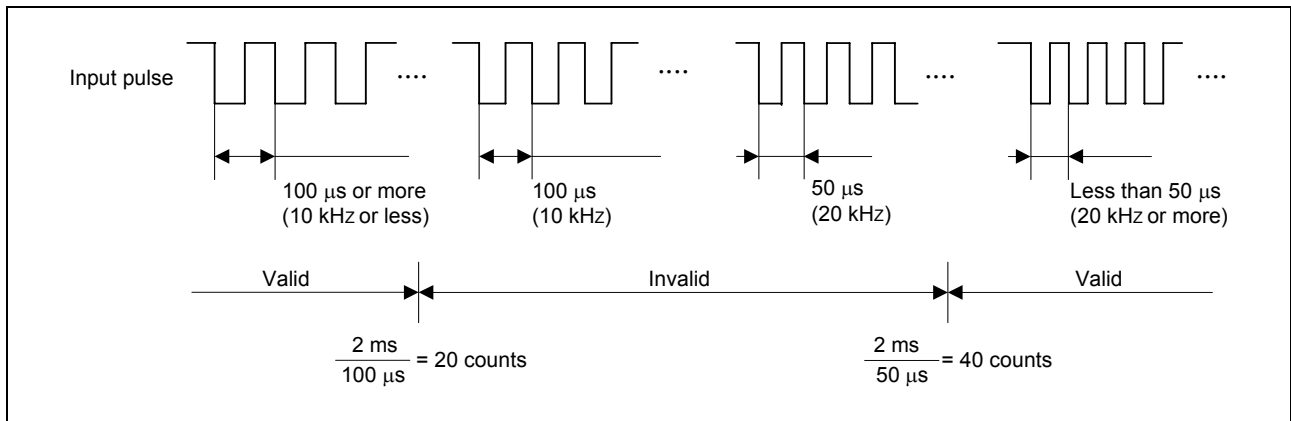
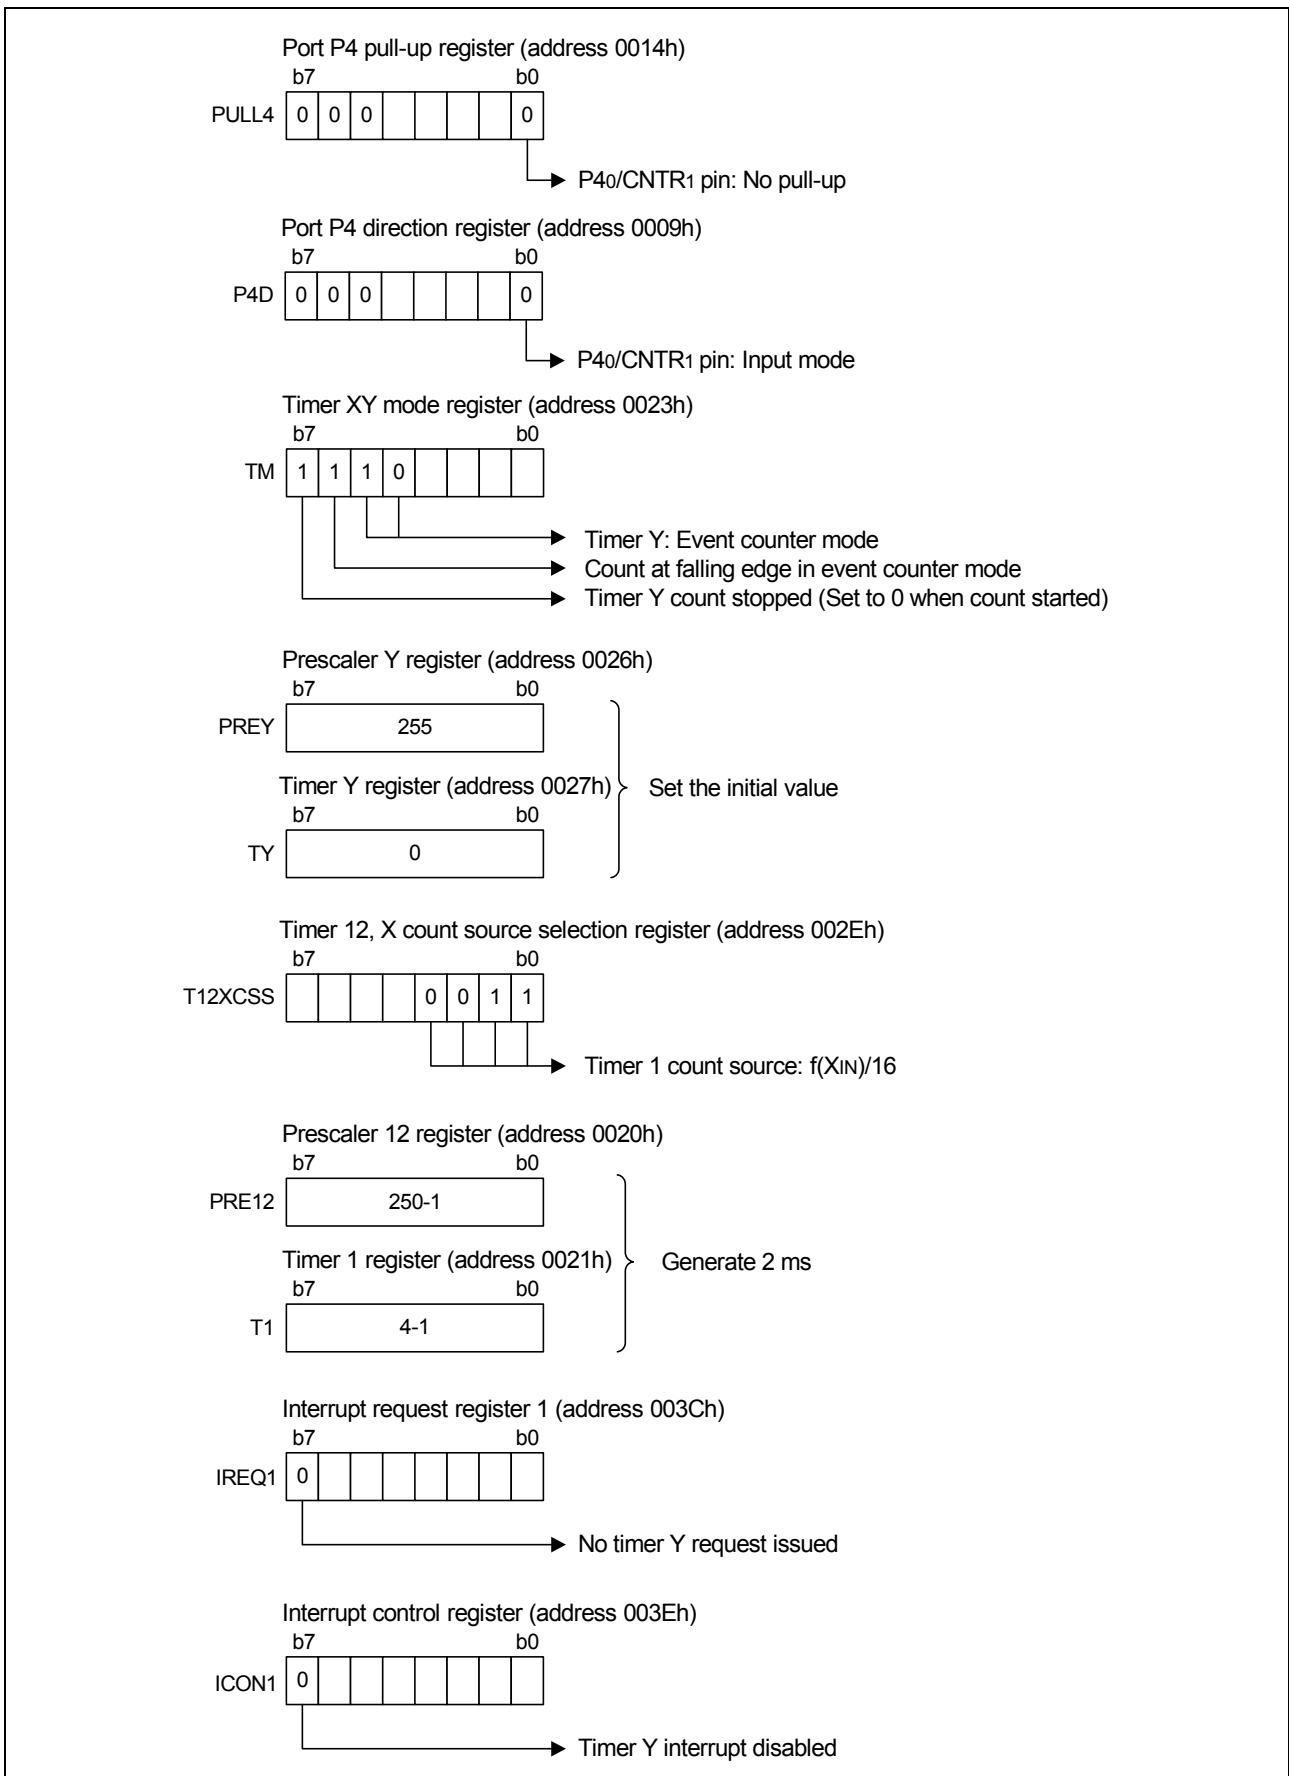
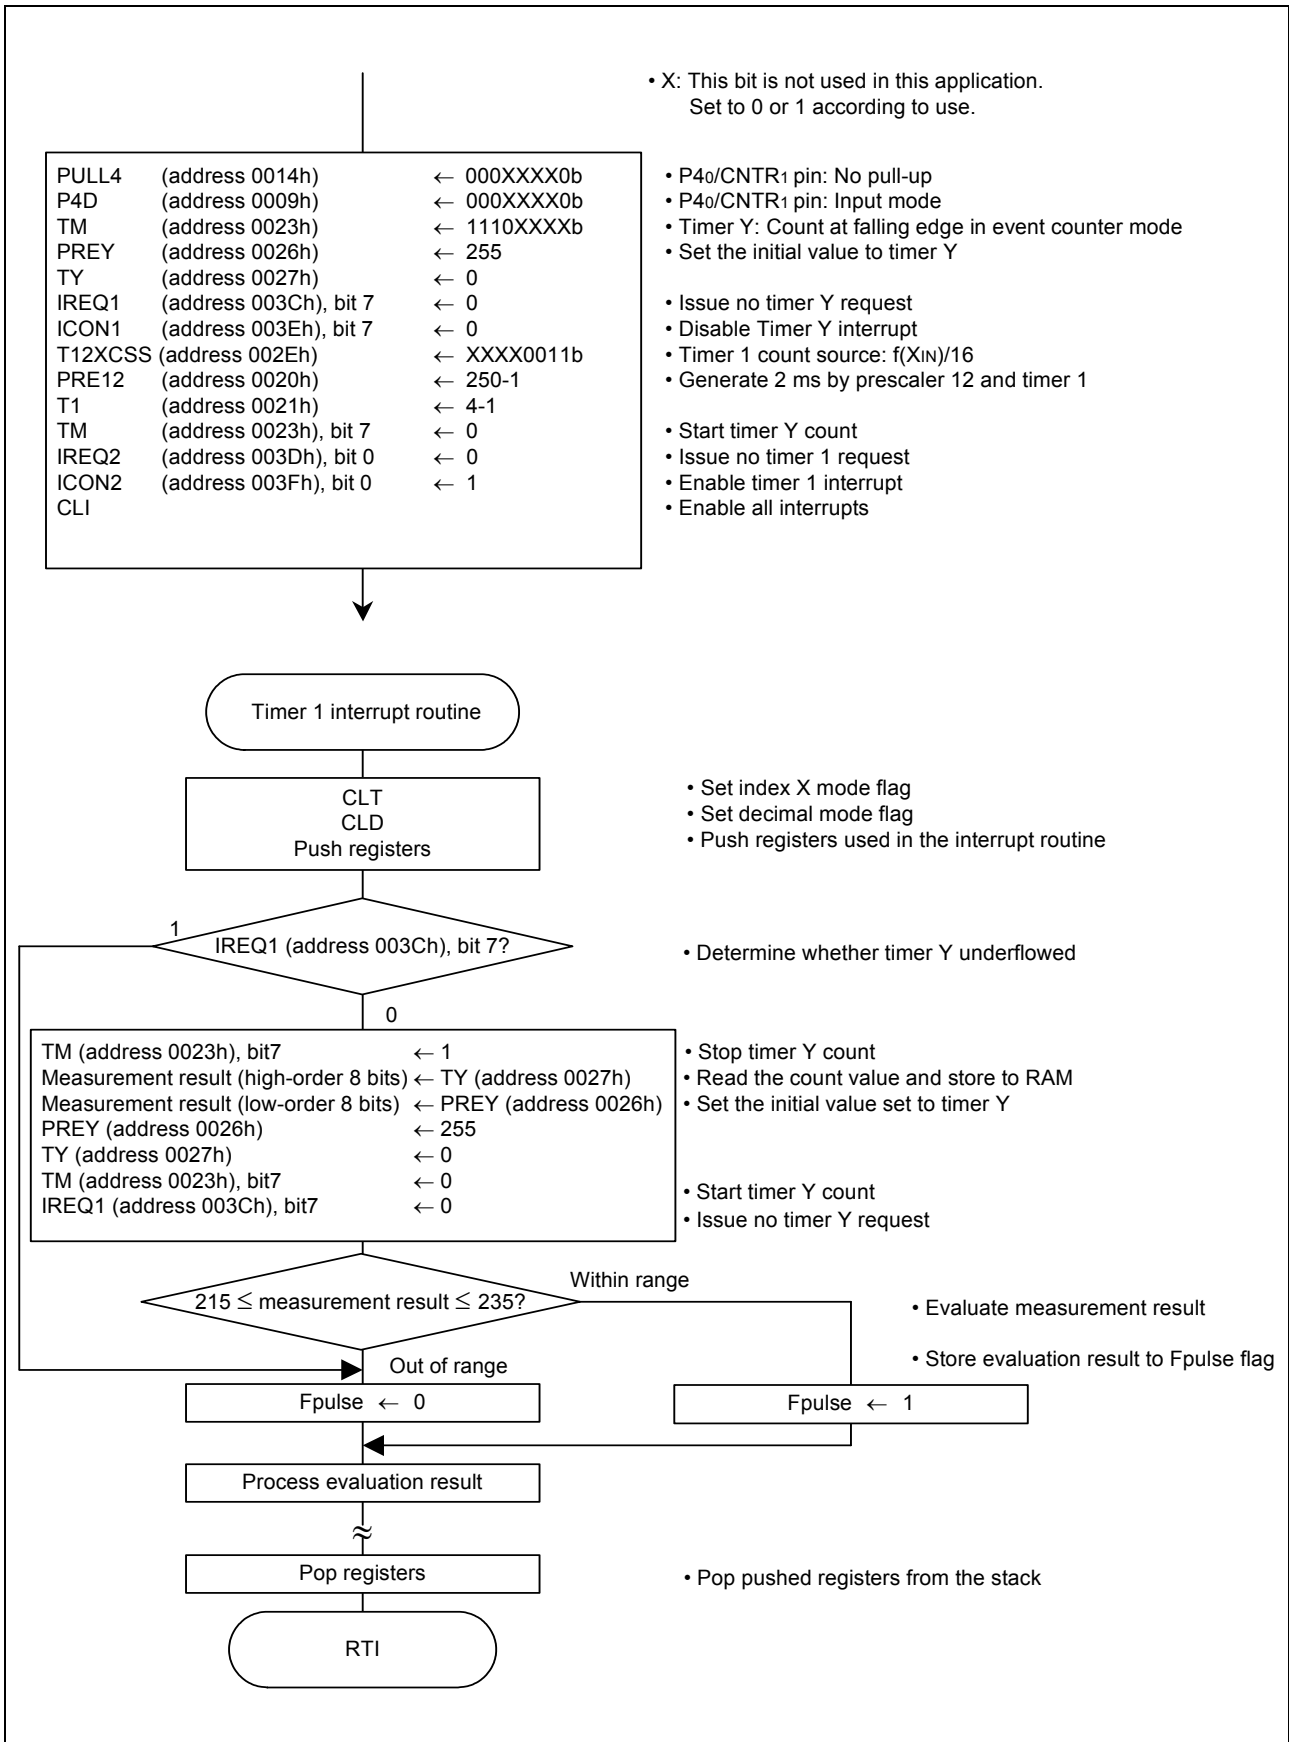

Figure 3.1 Determining Valid/Invalid Input Pulses
Figure 3.2 Relevant Register Settings (1)
Figure 3.4 Control Procedure
Figure 3.1 shows Determining Valid/Invalid Input Pulses, Figures 3.2 and 3.3 show the Relevant Register Settings (1) and (2), respectively, and Figure 3.4 shows the Control Procedure.